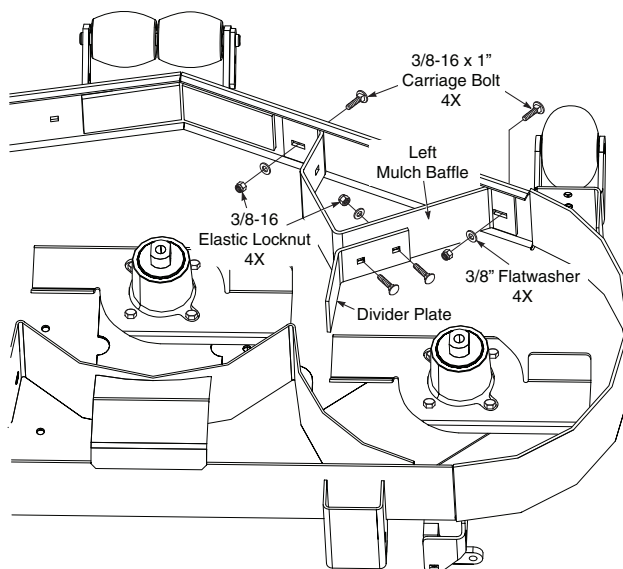

Figure 3. L.H. Mulch Baffle & Divider Plate Installation
6. Install the L.H. Mulch Baffle to the cutter deck as shown and secure using 3/8-16 x 1" carriage bolts, 3/8" flatwashers and 3/8-16 elastic locknuts. Do not tighten the hardware at this time. See Figure 3.
7. Install the L.H. Divider Plate to the Mulch Baffle as shown and secure using 3/8-16 x 1" carriage bolts, 3/8" flatwashers and 3/8-16 elastic locknuts. Do not tighten the hardware at this time. See Figure 3.